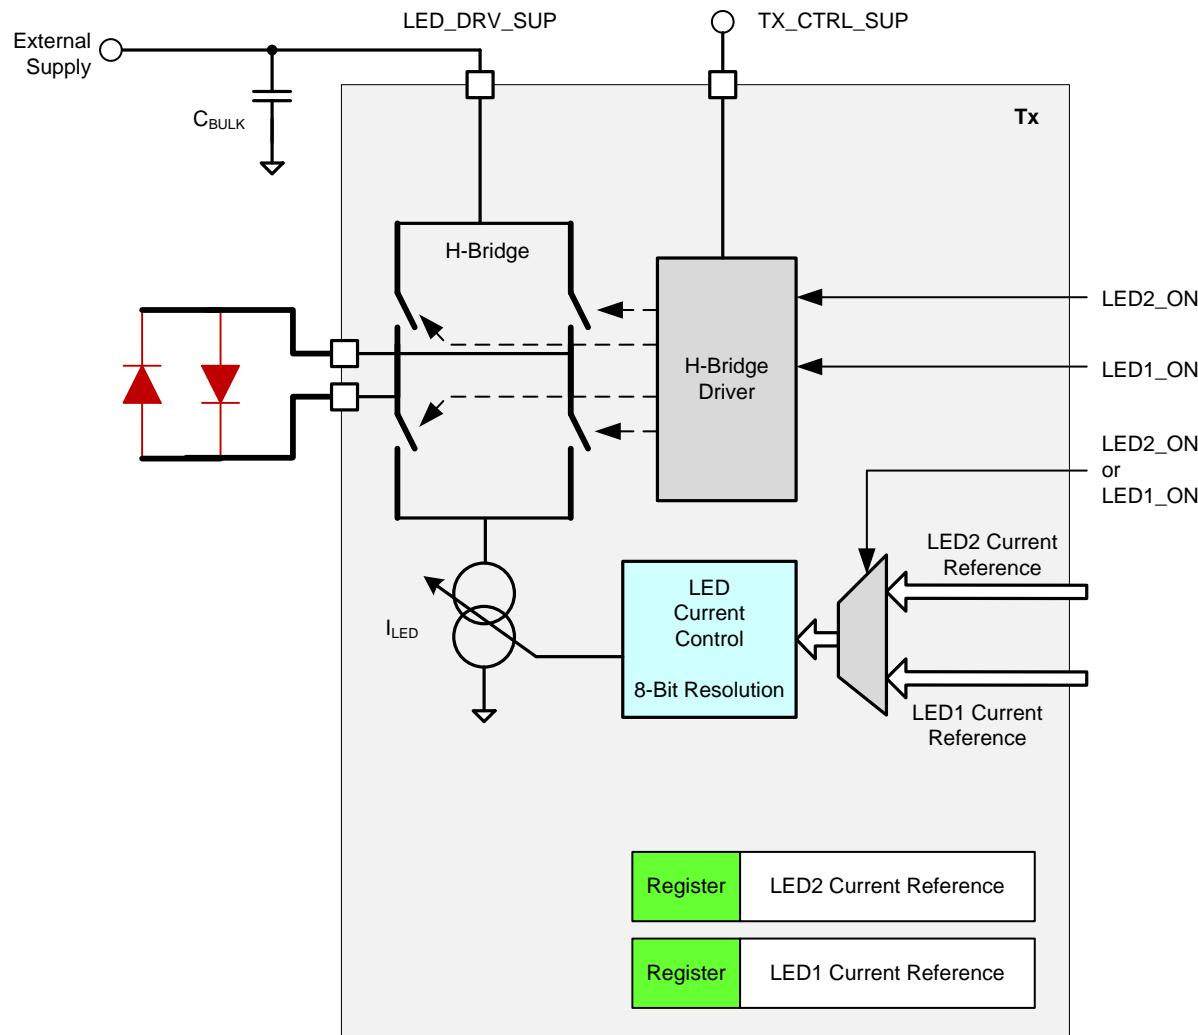

Figure 71. Transmit: H-Bridge Drive
- An H-bridge drive for a two-terminal, back-to-back LED package; see Figure 71.